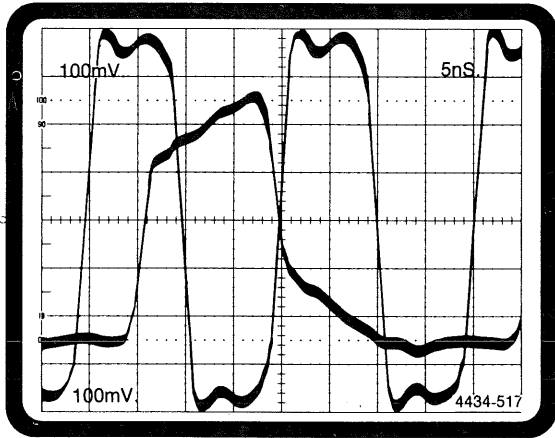

Figure 2-27. 318A Parallel data acquisition test waveform #1.
13. Adjust DD501 EVENTS LEVEL slowly until the channel 2 waveform's falling edge crosses the channel 1 waveform's rising edge at 0 V (mid-screen). See Figure 2-27 (14 ns setup, 0 ns hold).
26. Adjust the DD501 events level slowly until the channel 2 waveform's falling edge crosses the channel 1 waveform's rising edge at 0 V (mid-screen). See Figure 2-27 (14 ns setup, 0 ns hold).